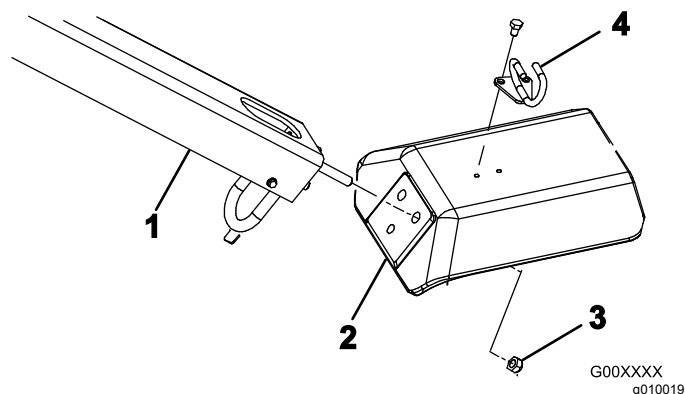

Figure 4
2. Insert the handle mounting studs into the holes in the fork (Figure 4).
3. Secure handle studs to fork (Figure 4) with 3 locknuts (1/2 inch).
5. Mount the cable guide to the top of the fork (Figure 4) with 2 bolts (5/16 x 1/2 inch).